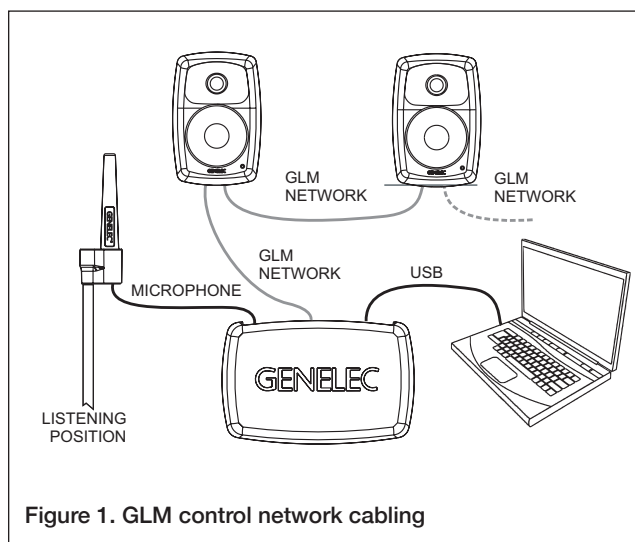

Figure 1. GLM control network cabling
- Run a CAT5 (RJ45) cable from the monitor control network to the next monitor (see Figure 1).